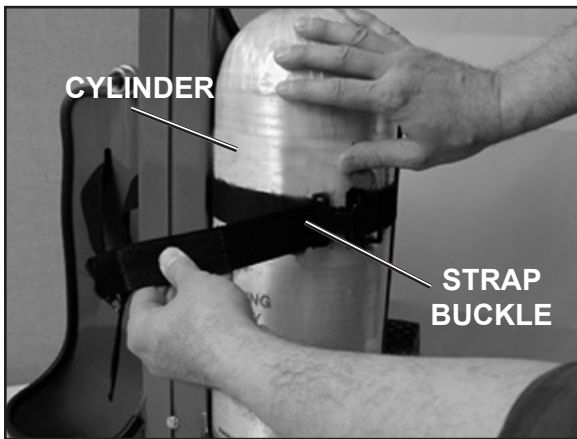

FIGURE 4
5. Hold the cylinder in place while pulling the end of the strap through the buckle until the strap is tight around the cylinder. See FIGURE 4.
5. The unit can now be fitted with cylinders or connected to a supply of air as described above. Inspect the high pressure coupling to be certain the coupling gasket is present and undamaged. See FIGURE 4. If the gasket is present and undamaged, align the high pressure coupling with the outlet of the cylinder valve and tighten the coupling to the cylinder valve by hand. Hand tighten only.